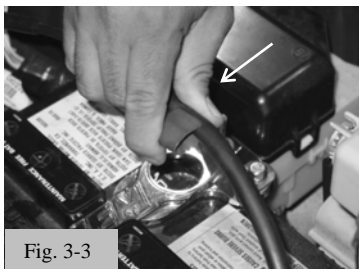

Fig. 3-3
- (g) Reconnect throttle cable to throttle cable bracket. (Fig. 3-3)